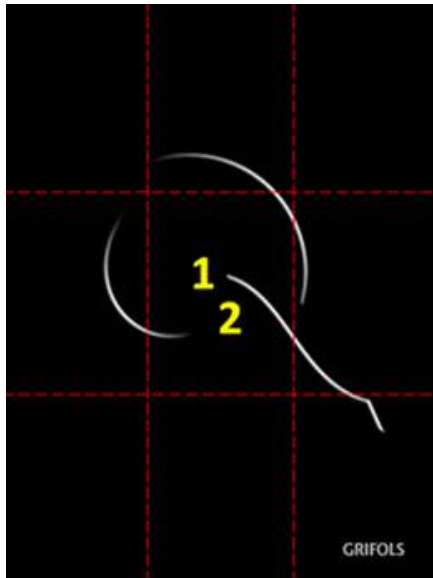

Figure 16.1. Black Window with Big Q Logo
- When the black screen with the big **Q** logo appears (Figure 16.1), double-click on the center of the screen.